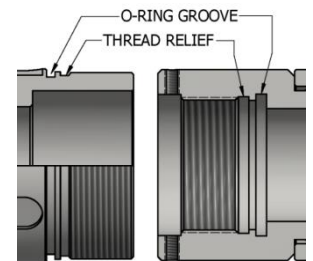

Fig. 1
**CAUTION2:** To ensure tool operates properly, install o-rings in o-ring grooves - **NOT** in thread reliefs (unless stated otherwise) (Fig. 1).
- I-3.1) Install o-ring (4) in o-ring groove in seal mandrel (1).
- I-3.2) Clamp seal mandrel (1) in vise.
- I-3.2.1) Install o-rings (5) in o-ring grooves in bonded seals (2).
- I-3.2.2) Install bonded seals (2) and seal spacer (3) onto seal mandrel (1).
- I-3.3) Unclamp seal mandrel (1) and remove assembled tool from vise.